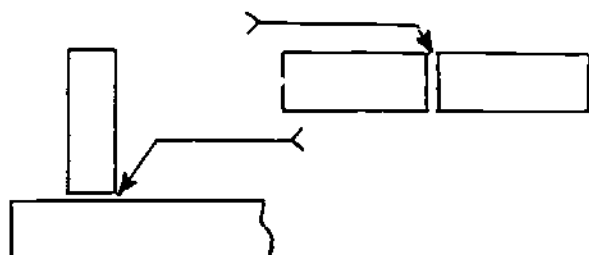

Figure 8-2. Indicating Location of a Weld
**A Reference Line** (usually horizontal) is drawn close to the drawing of the joint to be welded. To show the location of a weld, an arrow is drawn from the reference line with the head pointing directly to the joint concerned as shown in Figure 8-2.